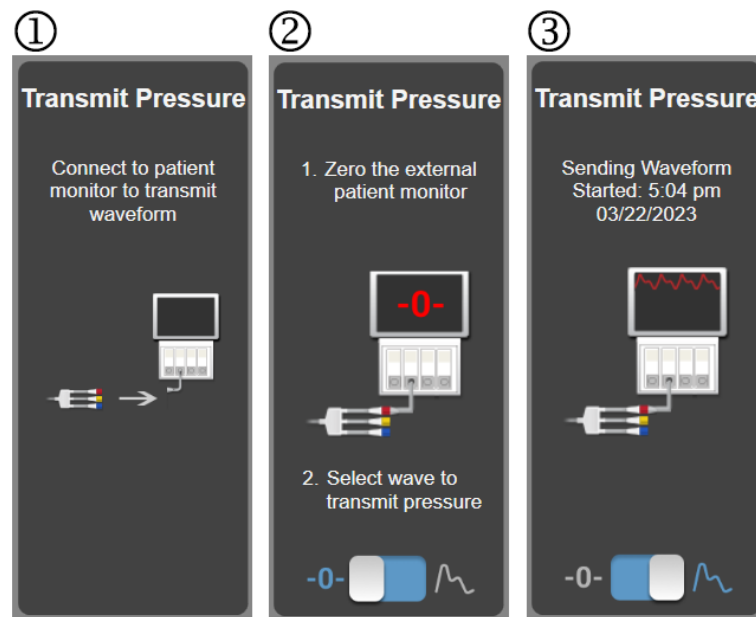

Figure 11-10: Transmit arterial pressure waveform to patient monitor
4. Zero patient monitor and confirm 0 mmHg is displayed. See (2) in Figure 11-10 on page 221. Refer to the patient monitor instructions for use.
5. Toggle to the **Transmit Waveform** icon  to begin pressure signal output to the patient monitor. See (3) in Figure 11-10 on page 221.
6. A "**Sending Waveform Started:**" message with the timestamp is displayed when the live waveform is being transmitted to the connected patient monitor. See (3) in Figure 11-10 on page 221.